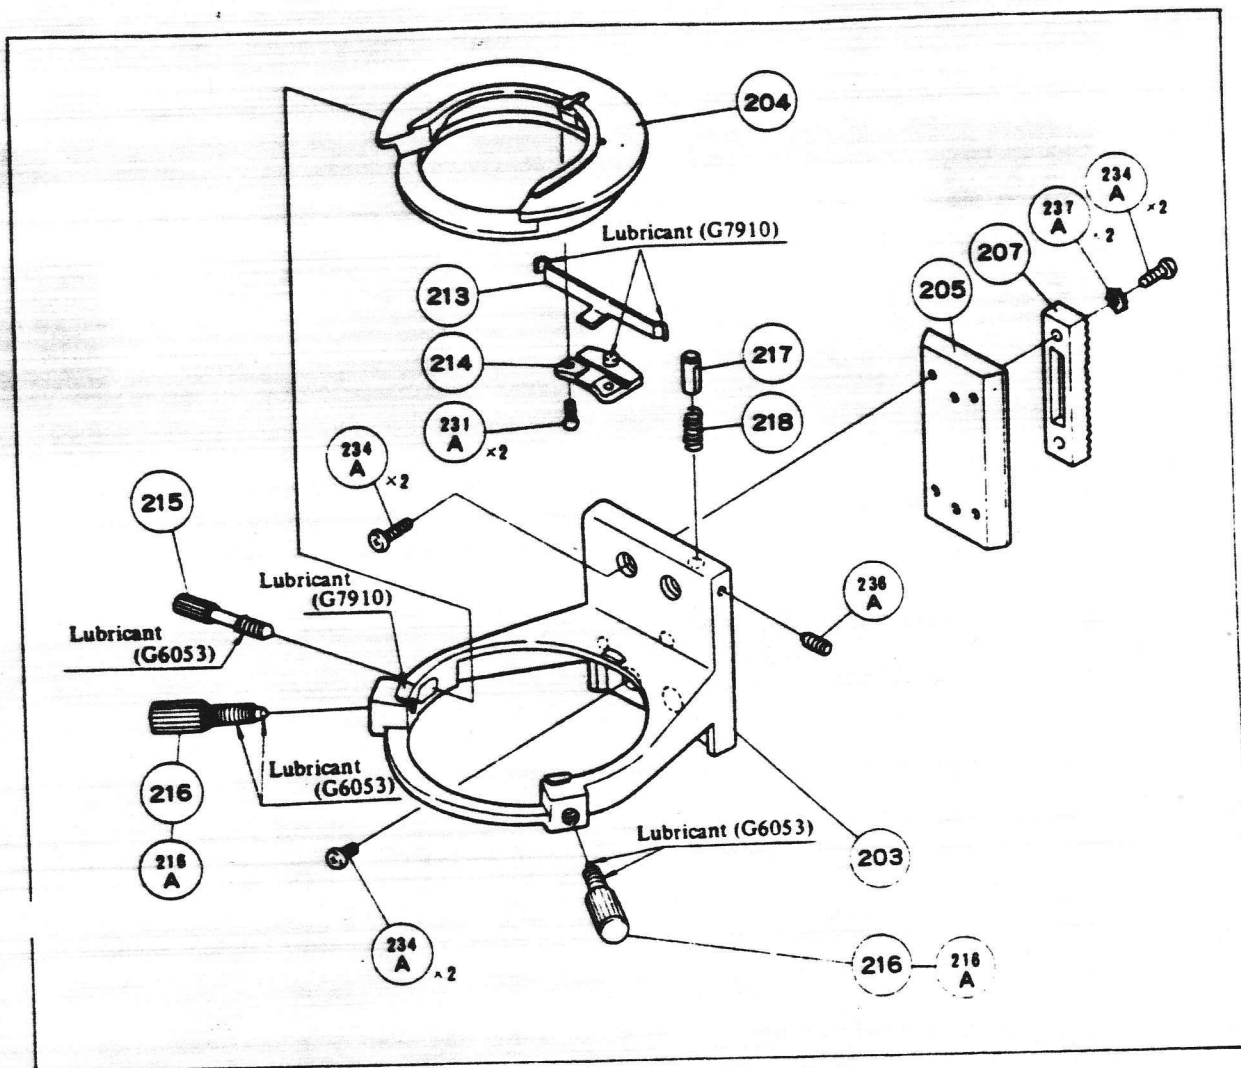
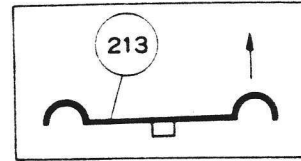

Fig. 27
Fig. 39
- 6) If stopper pin 217 has once been separated, because the top end is liable to be damaged, use the new one, which will facilitate reassembling with high accuracy. (Fig. 27).
- i) Insert set screws (236) x2 into the main body of substage.
- ii) Attach the knob to (201) with (236) x2, transitorily.
- iii) Attach rack (207) to dovetail (male) (205) with (274) x2.
- iv) After releasing (236) x2 and inserting the dovetail, turn pinion bearing (212), so that the gearing of rack (207) is achieved, and fix it in this position with (236A) x2 (utilizing the eccentricity of (212)).
- v) Make sure of no clearance between (201) and (212) and smooth operation without slack, unevenness or the like.
6) To attach the condenser mount follow the procedure as below (Fig. 27):
- i) Attach spring retainer (214) to condenser receptacle (204) with screws (231A) x 2.
- ii) Insert plate spring (213) between (204) and (214). Bend the spring as shown by the arrow in Fig. 39.
- iii) Apply G7910 to the sliding surface of condenser centering mount (203), and condenser receptacle (204).